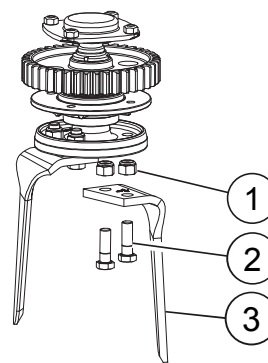

FIG. 25
- Loosen the two bolts (2, “Fig. 25”).
- Remove the nuts (1).
- Remove the blade (3) sideways.